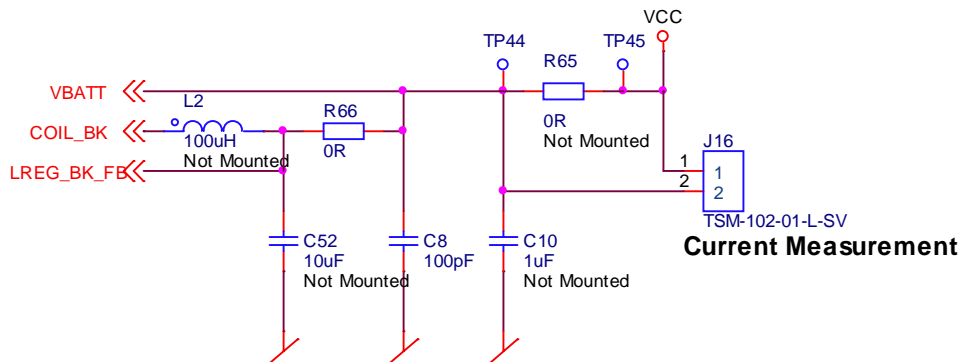

Figure 3-7. MC1322x Main Power Connection
Figure 3-7 shows the VCC connection at the MC1322x device. The PCB is supplied with the 0-ohm R66 component mounted, which is the simple non-regulated configuration. To allow use of the buck regulator:
- Total current to the MC13224/225 - reference Figure 3-7. R65 can be removed and current can be measured through jumper J16.